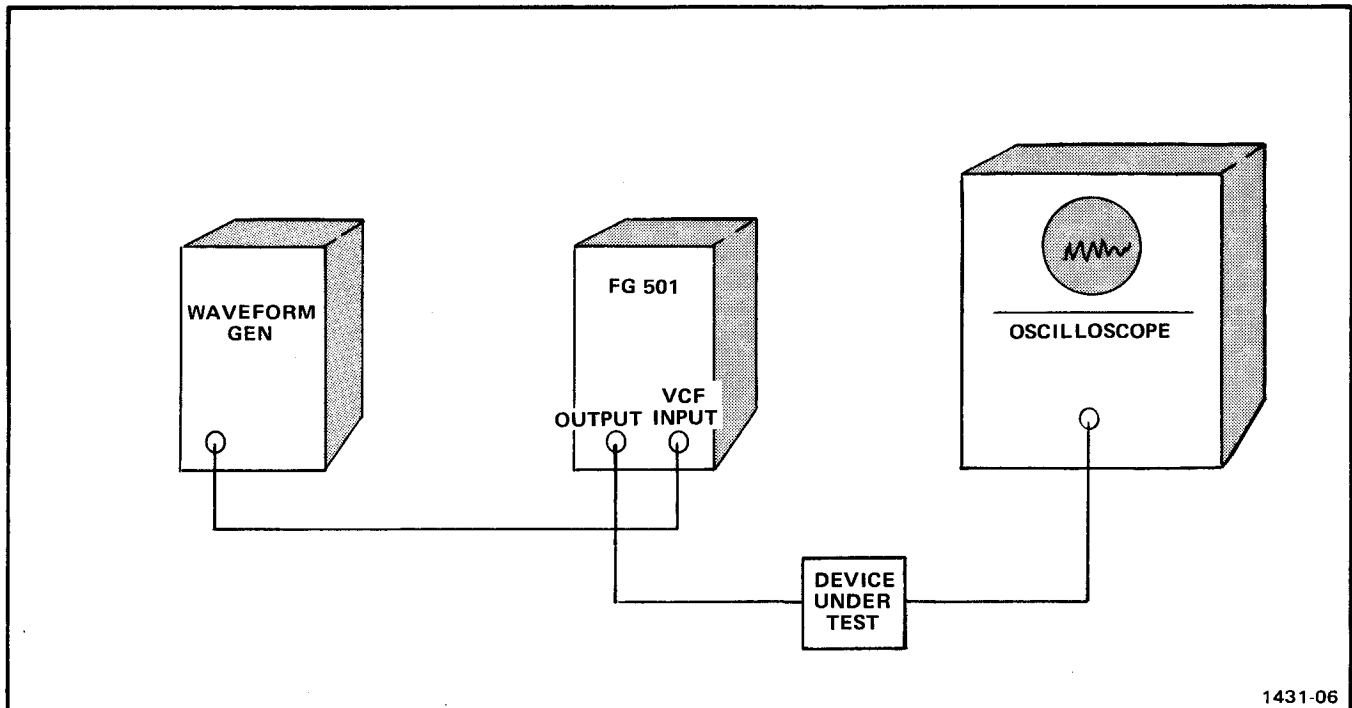

Fig. 1-9. Analyzing circuit or system response.
1. Connect the equipment as shown in Fig. 1-9.